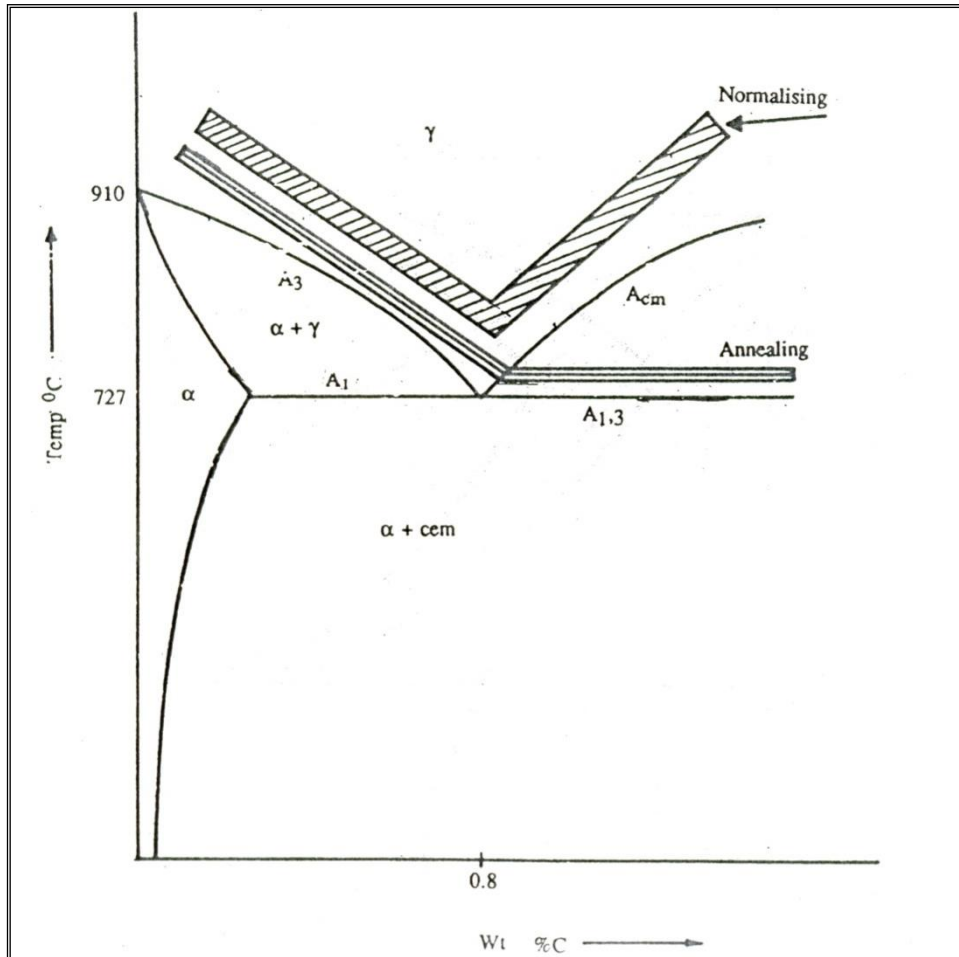

Fig. 3.2 Annealing and Normalising temperature ranges of steels
The main purpose of annealing is stress relieving so that ductility of the steel can be improved to a greater extent. The annealing temperature range of steel is shown in fig.3.2
- b. Refine the structure and improve the machinability. Normalising temperature range of steels is shown in fig.3.2 Normalizing process cycle Time-Temperature diagram is shown in fig. Normalizing process consists of